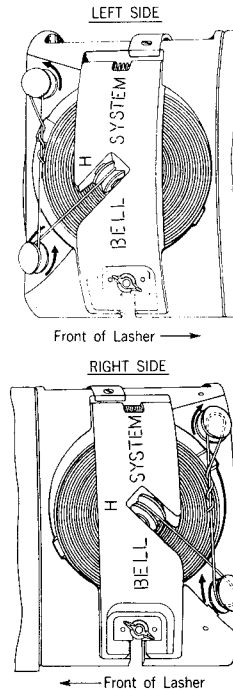

Fig. 9—Threading H Cable Lasher
- (3) Close the cover and latch. Tighten the wing nut part way.
- (4) Cut the two remaining bindings and remove them. (If portions of the bindings are not removed, they may cause snagging of the lashing wire.)
- (5) Tighten the wing nut.
- (6) Thread the lashing wire around the snubbing pulleys and wind the free end of the lashing wire as shown in Fig. 9 so it does not project or dangle from the lasher.